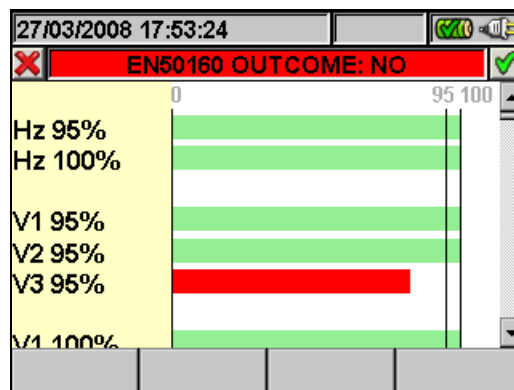

Fig. 140: EN50160 analysis histogram
- The **F2** key (or the **GRAPH** item on the display) accesses the page showing the histogram for the quantities in the table (Fig. 140).